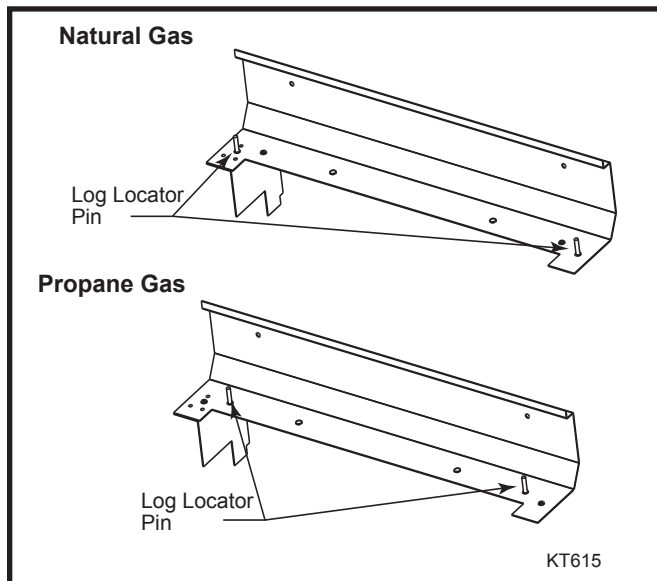

Fig. 49 Move log locator pins to new locations on rear log support.
6. **For Model 36LDVT ONLY:** Remove the rear log support and relocate the two (2) screws that locate the rear log as shown in Figure 49.